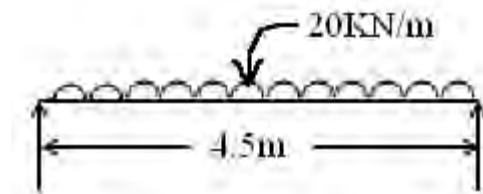

Figure 2:
2. A timber beam of 4.5 m span is subjected to the loading shown in figure 2. If the depth of the beam is twice the width, design the section of the beam for flexure and shear. The permissible stresses are 25 N/mm^2 in flexure and 3 N/mm^2 in shear. [15]